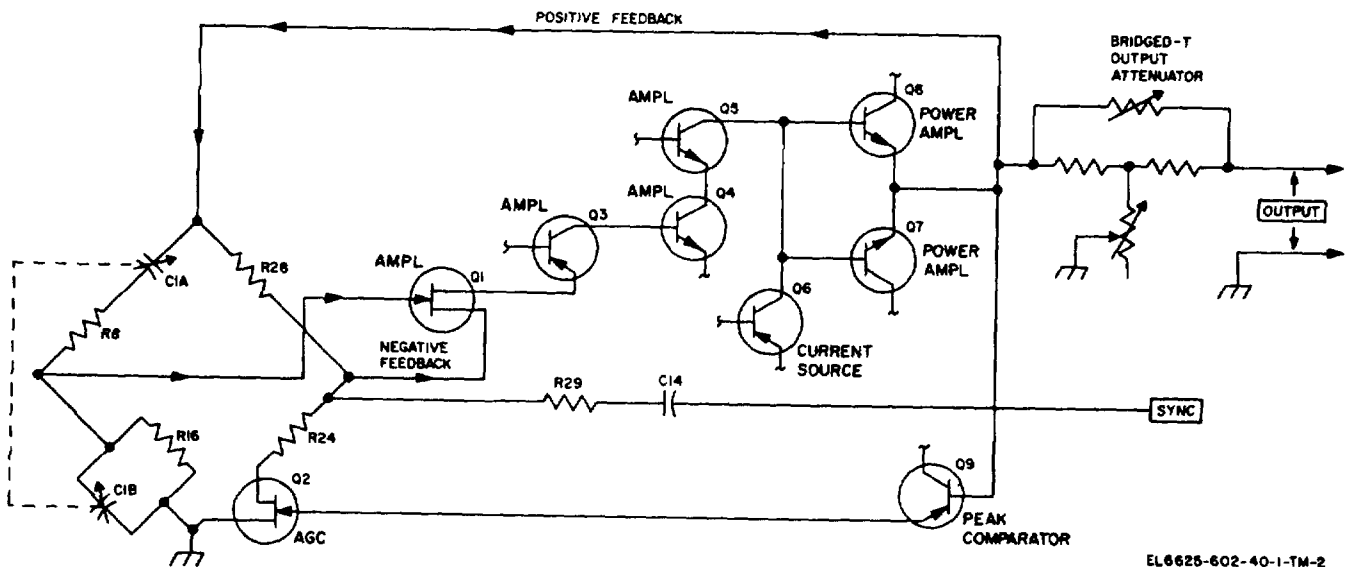

Figure 2-2. Generator, Signal SG-543B/U simplified schematic diagram.
a. *Rc Bridge Oscillator Circuit (fig. 2-2).* The bridge oscillator consists of the bridge, an amplifier and two emitter followers. The output from these circuits is a sine wave signal which is returned to the bridge as